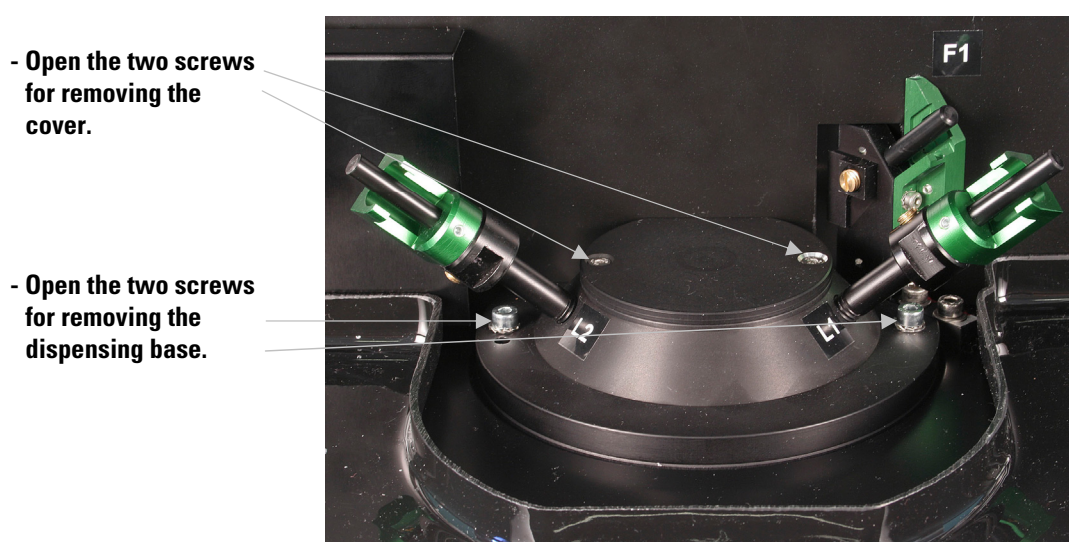

Figure 5–53. Opening the dispensing base for cleaning
3. Remove the cover of the dispensing base by opening the two screws (Figure 5–53).